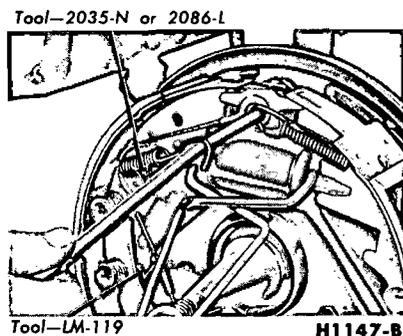

FIG. 17—Retracting Spring Installation—Typical
5. Place the cable eye over the anchor pin with the crimped side toward the backing plate. Install the primary shoe to anchor spring with the tool shown in Fig. 17.